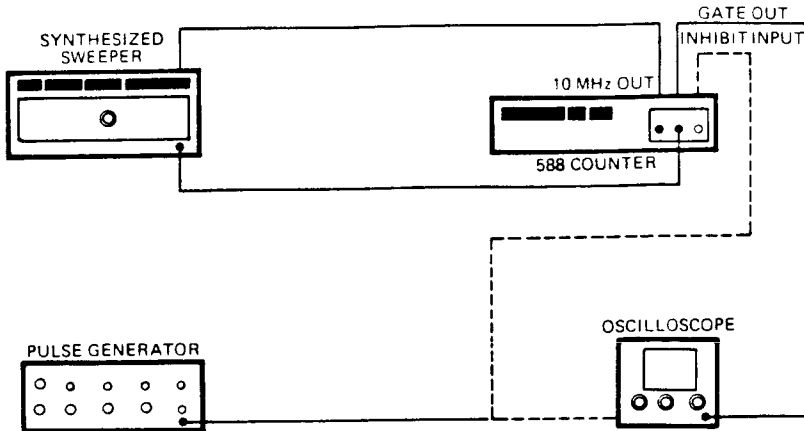

Figure 4-22. Band 2 Averaging Jitter Test Setup
1. Connect equipment as shown in Figure 4-22 and turn equipment on.